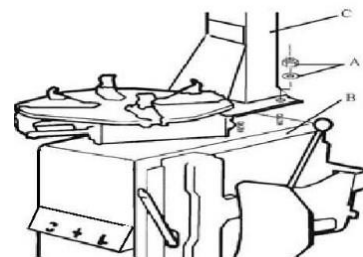

Fig 3
2. Unscrew the nut A on the cabinet body B as shown in **Fig 3**.